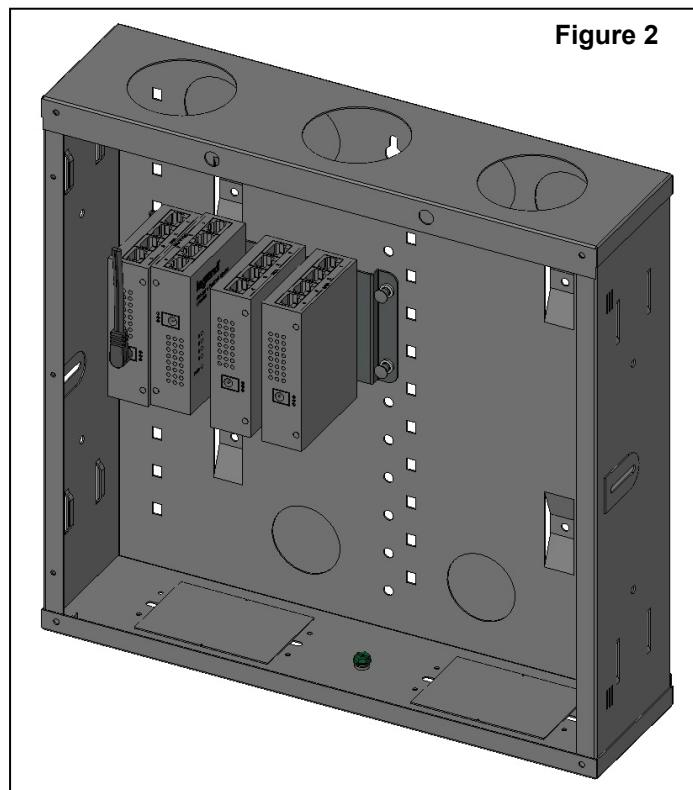

Figure 2
The DA2400 is designed so that multiple units may be easily mounted to a separately available bracket (P/N AC1025) in an On-Q style enclosure (see **Figure 2**) and each unit may also be individually wall mounted, as it has keyhole slots on the rear of the case.
3. Each 4 Port PoE Injector is first attached to the separately available AC1025 bracket using two of the eight screws provided with the bracket (see **Figure 2**) and then the bracket is installed in the structured wiring enclosure by slipping the tabs into the square holes, and using the push pins in round holes to secure the DA2400.